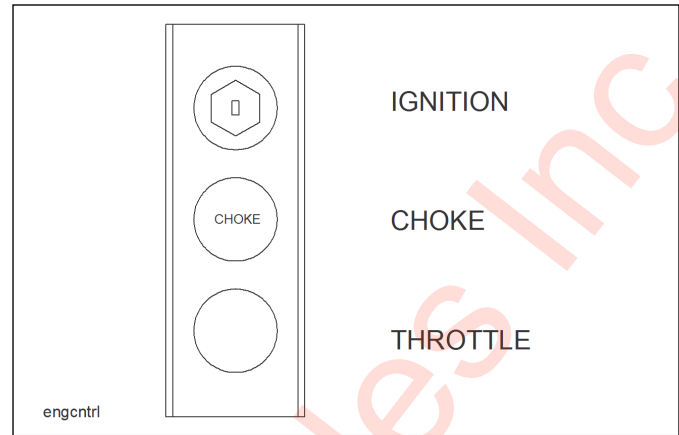

Figure 3-11: Engine Control Panel
- The Engine Ignition Switch, Choke and Throttle are on the Engine Control Panel mounted on the drivers side of the engine package (See Figure 3-11.)
- The **HYDRAULIC POWER SUPPLY ENGINE THROTTLE** controls the speed at which the engine operates (See Figure 3-11.) It is a variable position control: